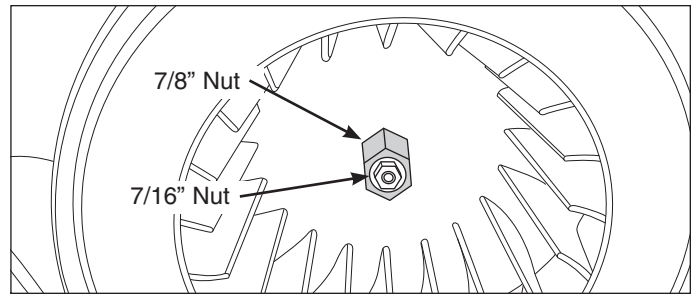

Figure 4-40.
1. Using a 7/16" extended socket, remove the nut securing the motor shaft to the blower wheel. (See Figure 4-40)
2. Using a 7/8" extended socket and while holding the motor shaft from turning, loosen the blower wheel from the shaft by turning clockwise. Spin blower wheel clockwise until free of motor shaft. (See Figure 4-40)